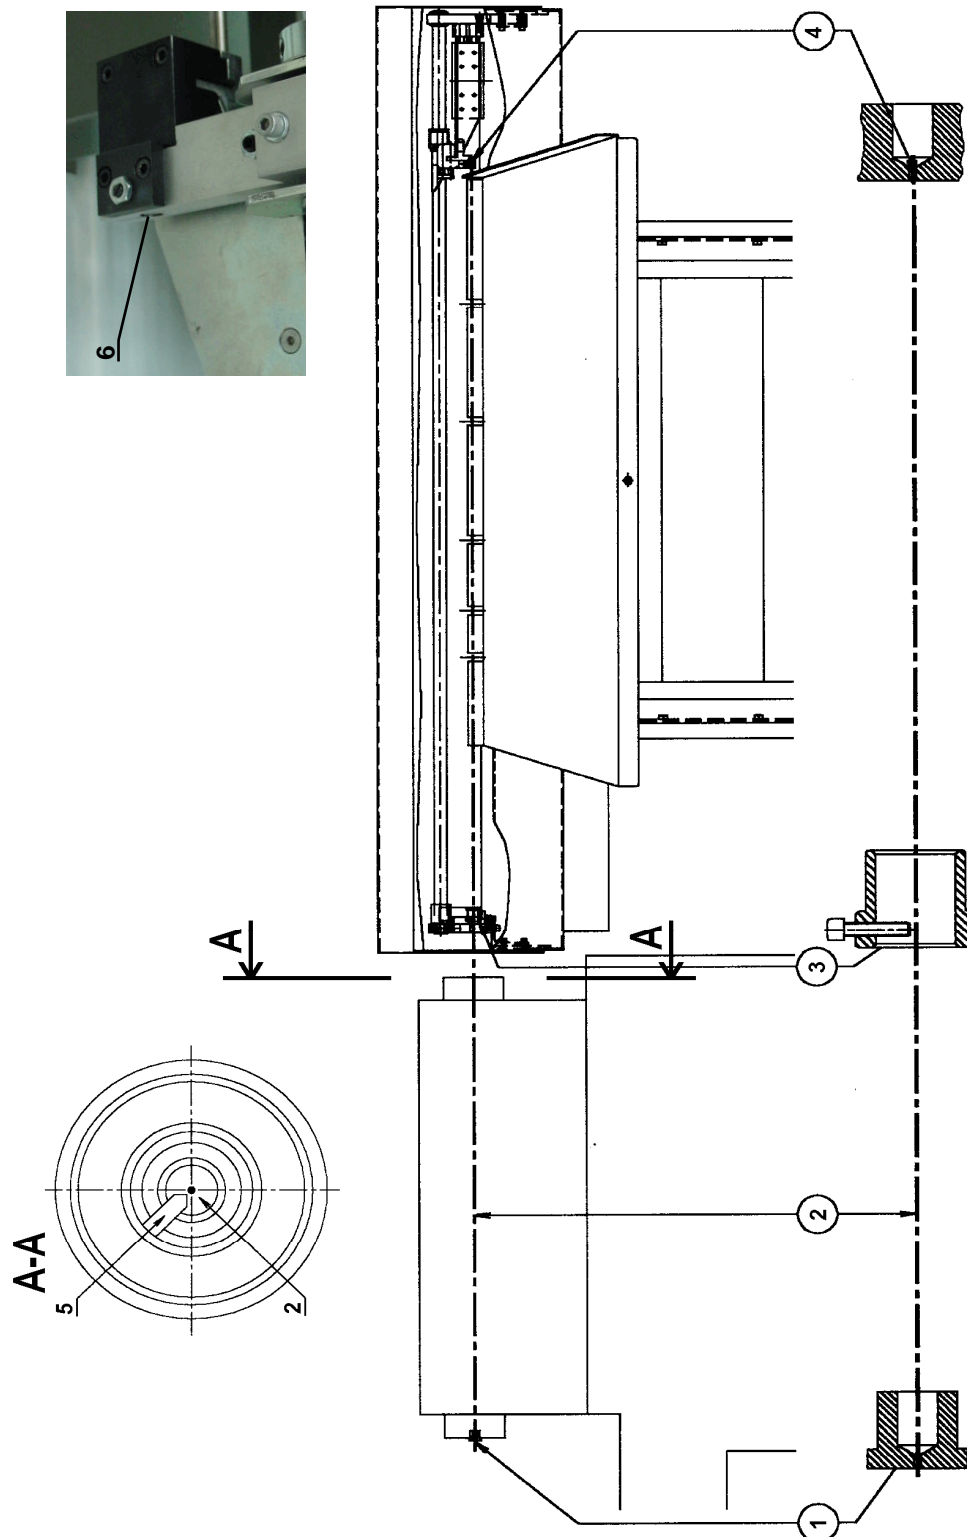

Fig. 3.2 Setting Kit
- Install setting jigs, see Fig.3.2.